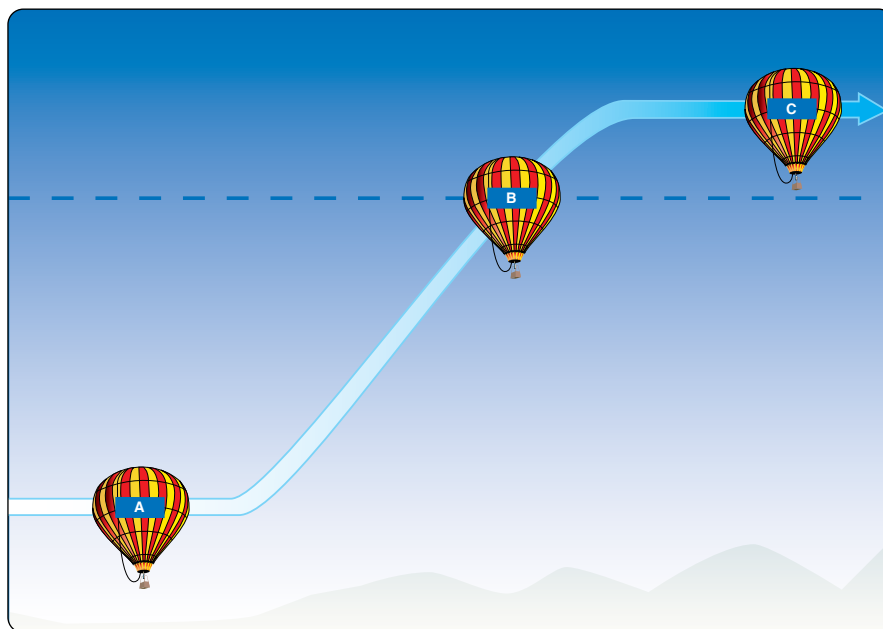

Figure 7-4. *Ascent schematic*
Another skill to develop in ascents is knowing when to stop burning so the balloon will slow and level at the chosen altitude. The transition from a climbing mode to level flight involves estimating the momentum and coasting up to the desired or assigned altitude. One methodology is illustrated in *Figure 7-4*. During this flight, the pilot has decided to leave his current altitude (A) and climb to another (C). While climbing, the pilot adjusts burn times to be at a 100 fpm rate of climb by the time they are at a point 100 feet below the desired altitude (B). Under most circumstances, the balloon "coasts" the additional 100 feet and rounds out, or resumes level flight, at the desired altitude. It may be necessary to use the vent for a short time to stop the ascent with caution not to vent excessively, thereby causing the balloon to go into a descent. The balloon pilot must remember that each manufacturer has a specific interval that the vent can be opened while in flight. Should that interval be exceeded, it can have a disastrous result. With practice and application, the pilot can learn this skill without the use of the vent, not only conserving fuel, but also flying a much more controlled flight.